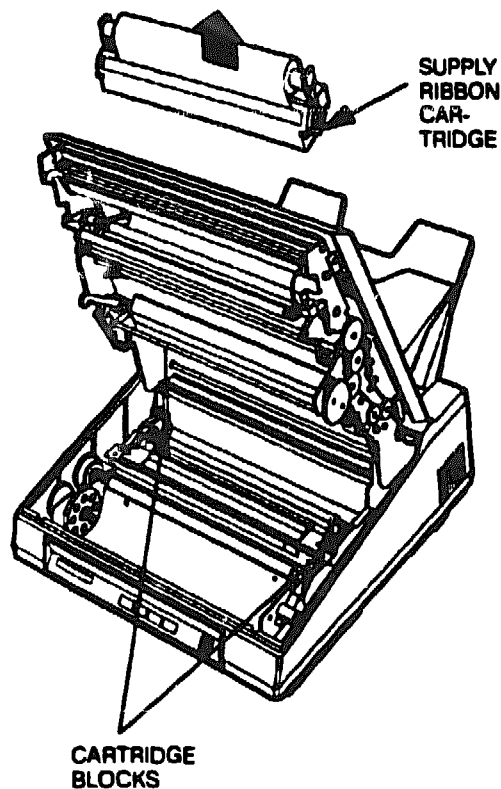

Figure 6-3 Supply Ribbon Cartridge Removal
4. Lift up the ends of the supply ribbon cartridge and remove the cartridge from the mounting blocks (see Figure 6-3).